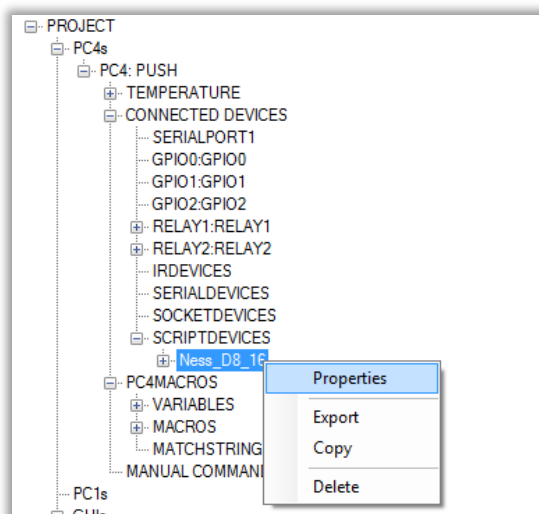

Figure 13 - Configuring device parameters: right click the device and select properties
- Right click on the newly added script device, and select “Properties”. *Refer to Figure 13*